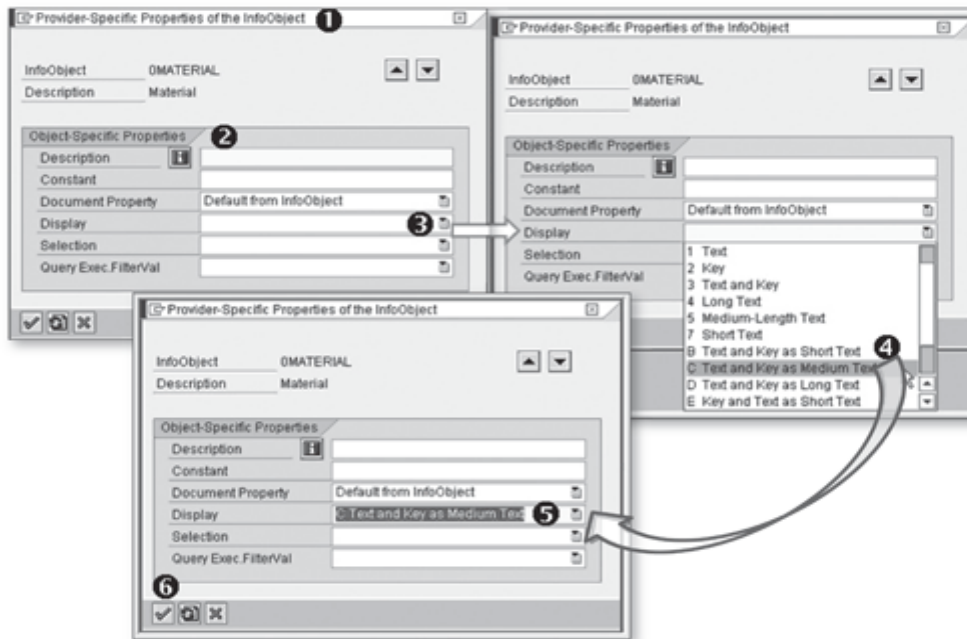

Figure 5.25 Setting Provider-Specific Properties of the InfoObject
This action displays the Provider-Specific Properties of the InfoObject screen shown in ❶ of Figure 5.25. Different object-specific properties are visible (❷). To set the required properties of the OMATERIAL InfoObject, select the drop-down menu next to Display (❸), and select Text and Key as Medium Text (❹). This setting influences the display for OMATERIAL only in this specific InfoCube (❺). Click on the CONTINUE icon (❻) to return to the definition screen.